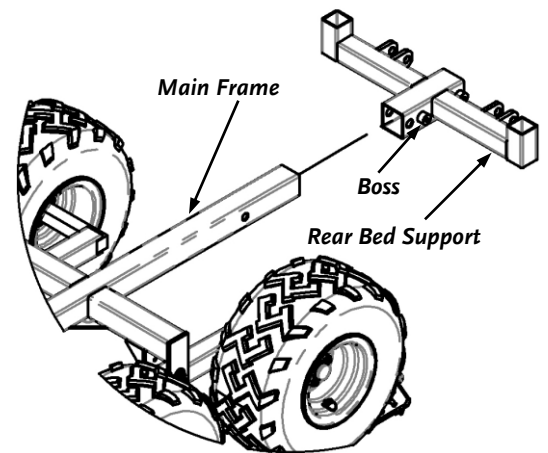

Figure 38
1. Slide the Rear Bed Support (**Figure 38**) onto the Main Frame with the Bosses facing Left.